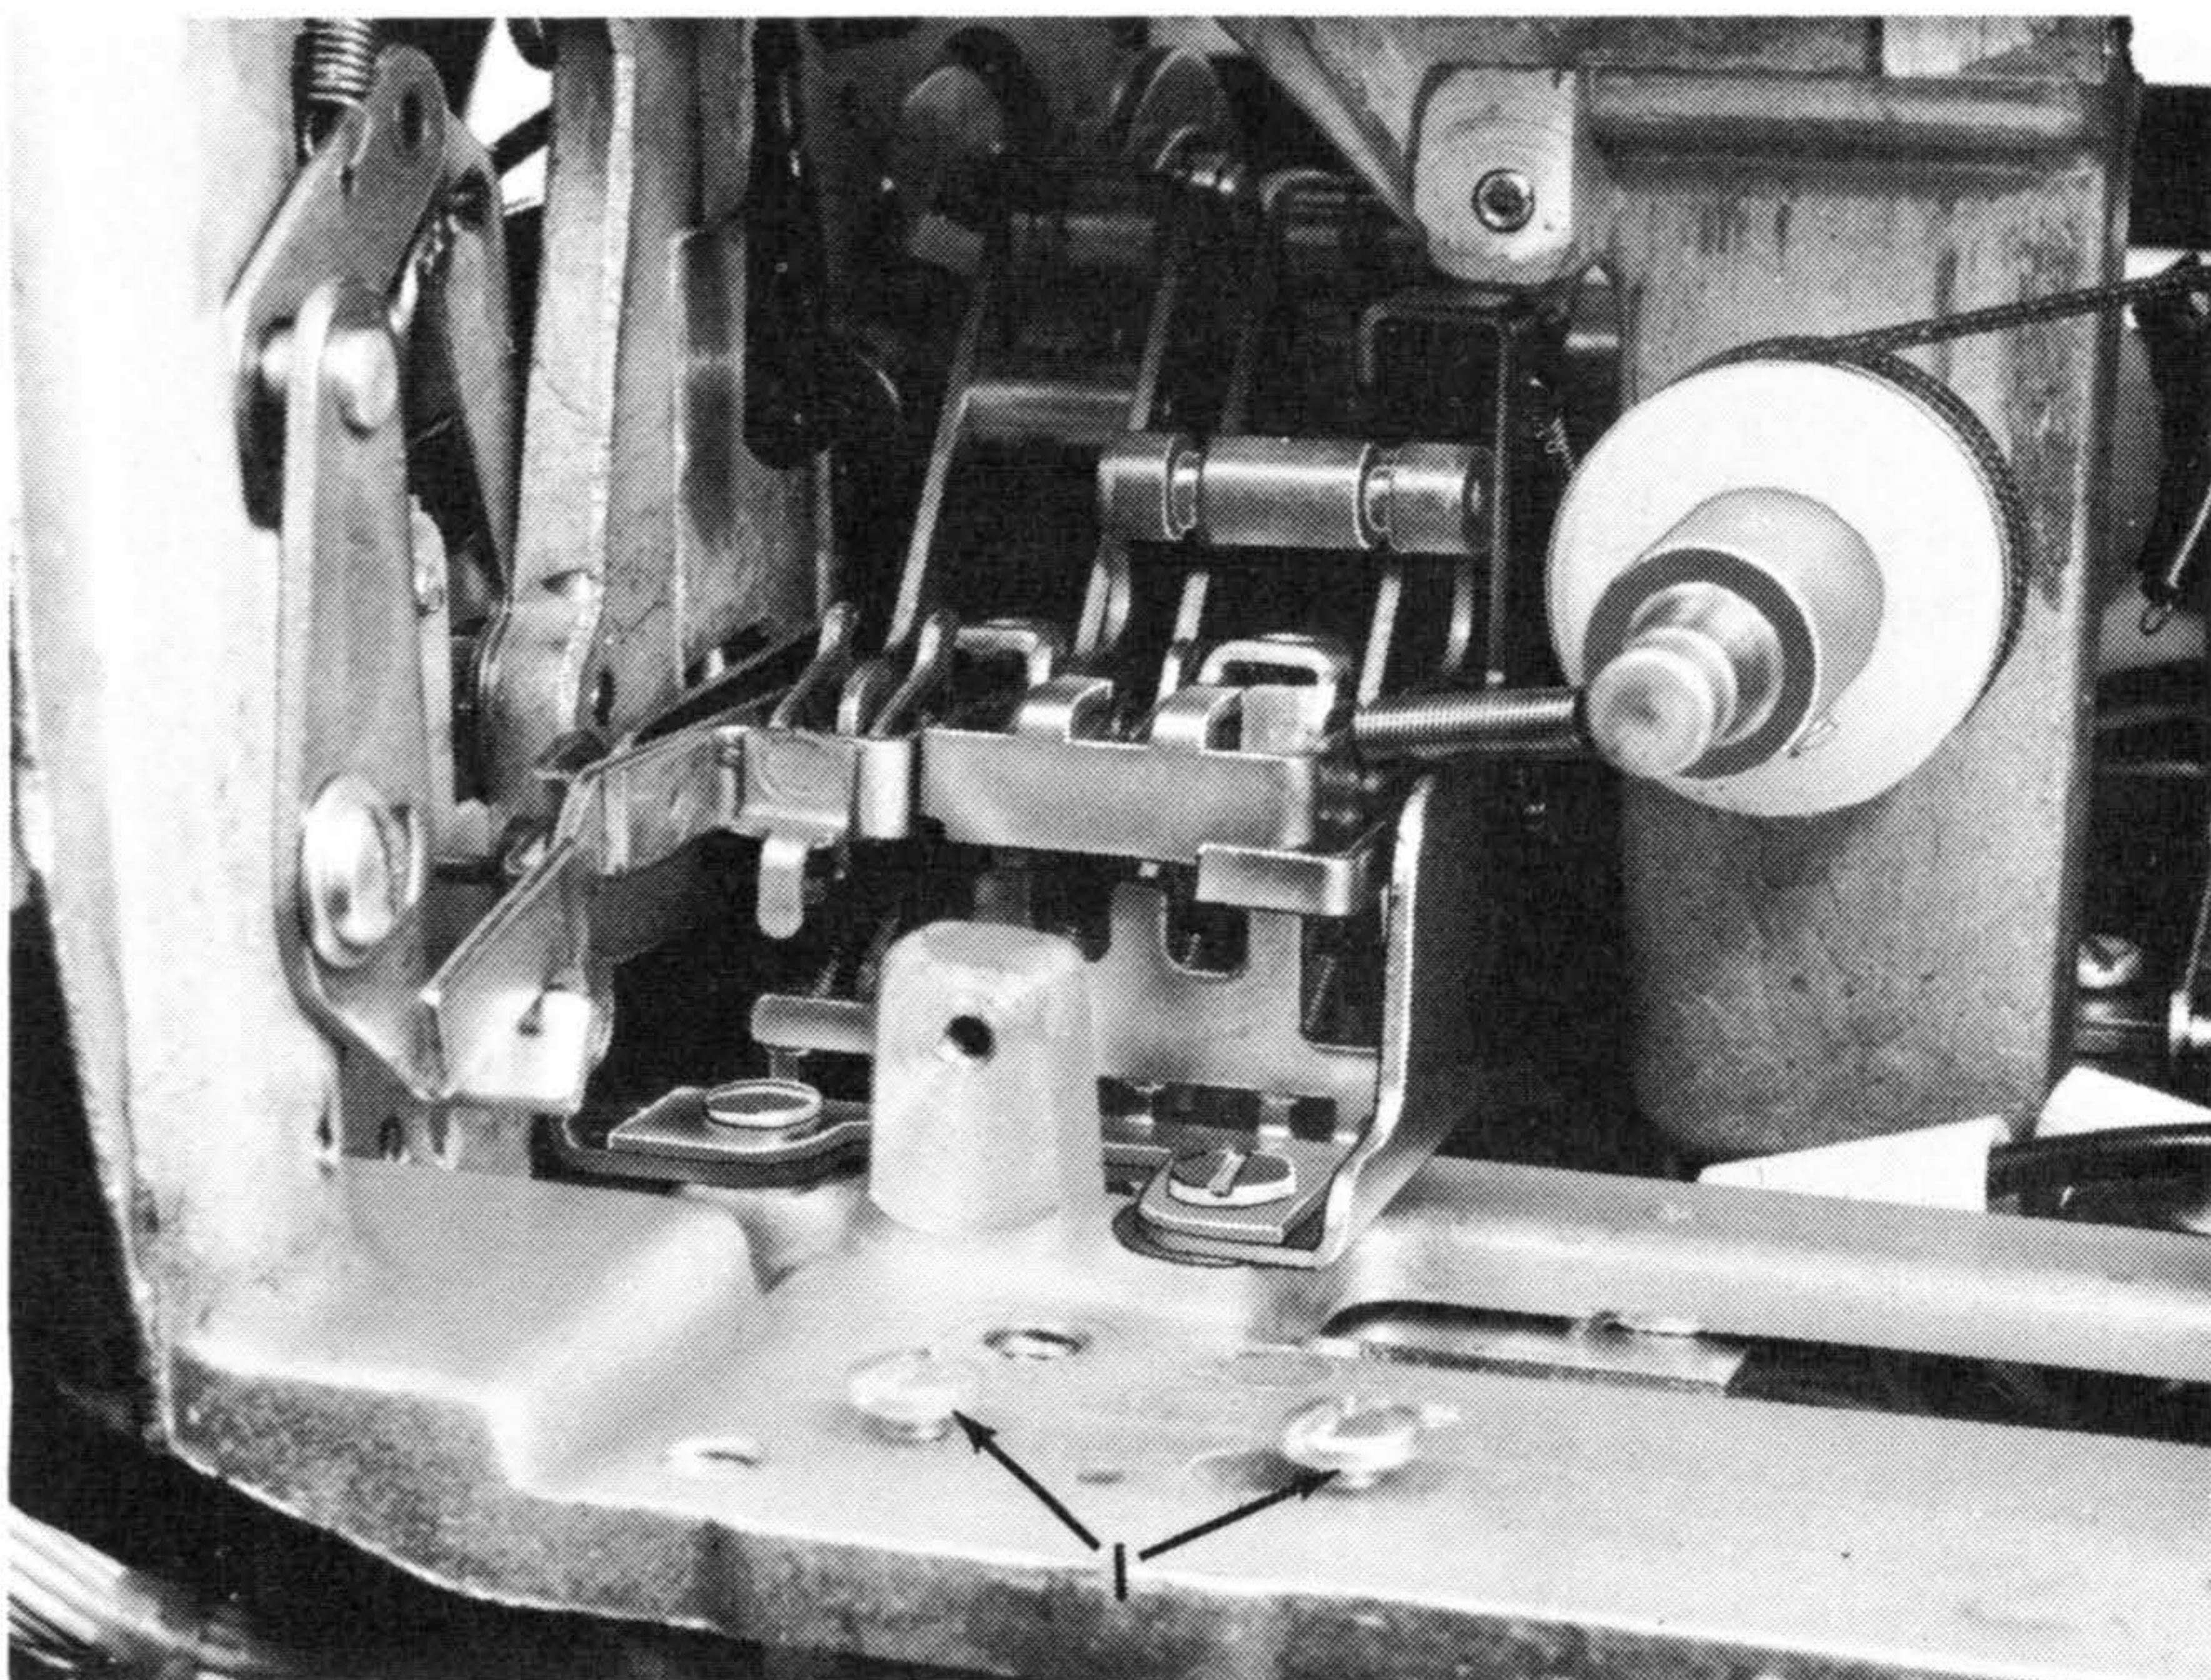

Figure 51. Operational Interposer Bracket Removal
5. Remove the six (two shown) mounting screws (#1, Figure 51).